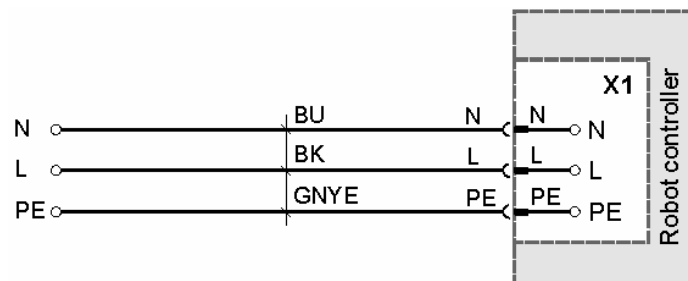

Fig. 7-2: Power supply connection
3. Connect the robot controller to a grounded-neutral power supply system in accordance with (>>> Fig. 7-2) .
- Light blue (BU) to the neutral conductor of the power supply system
- Black (BK) to the live cable of the power supply system